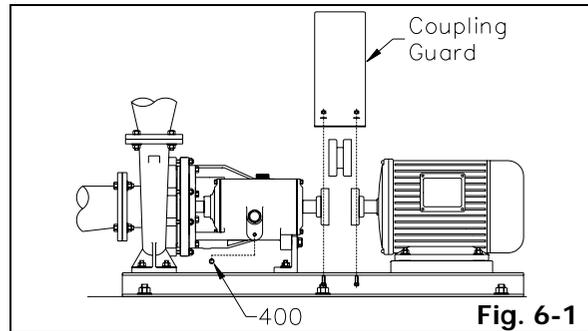

Fig. 6-1
7. Drain oil from bearing bracket (301) or bearing frame (300) by removing bearing bracket/frame drain plug (400). Replace plug after oil is drained (Fig. 6-1).